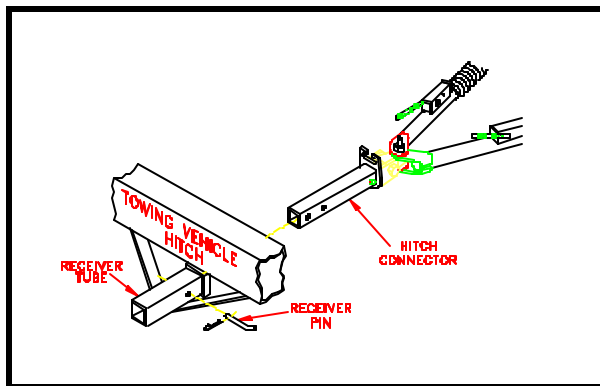

Figure 1
2. **NOTE: Do not wrap safety cables around legs or damage could occur to the rubber boots. If it is necessary to remove slack from the cables, wrap each once around their respective tow bar legs in front of the latch housing and then cross them under the tow bar.** (See Fig. 1)
1. Slide the hitch connector into the receiver tube of your towing vehicle hitch. Secure the receiver pin provided into one of the two holes of the hitch receiver. The inside hole of the receiver tube is most commonly used. (Figure 1)